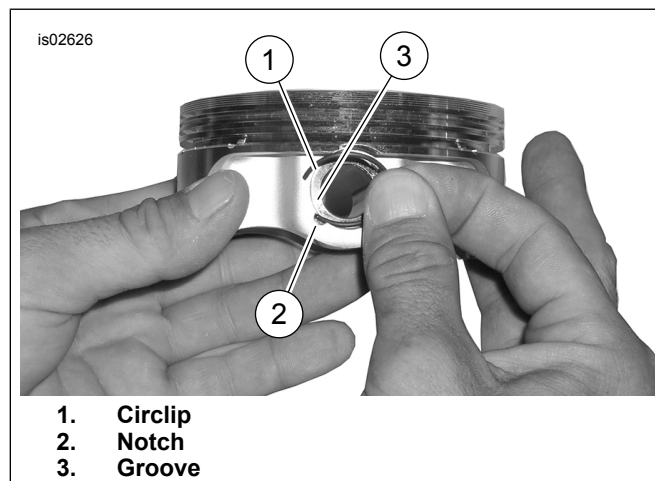

Figure 3. Circlip and Piston
- See Figure 3. Insert the open end of the circlip (1) into the notch (2) on the groove (3) around the piston pin boss so the gap is at the 12:00 or 6:00 o'clock position when installed.